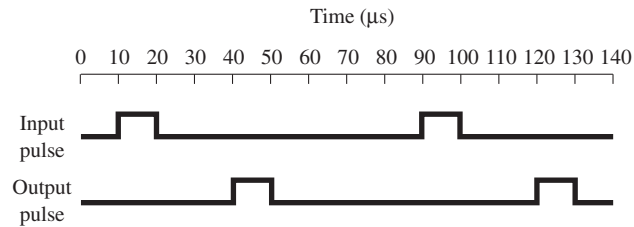

Figure P14–12
- C D** **14–12.** Use two 74121s as a delay line to reproduce the waveforms shown in Figure P14–12. (The output pulse will look just like the input pulse but delayed by $30\ \mu\text{s}$.)